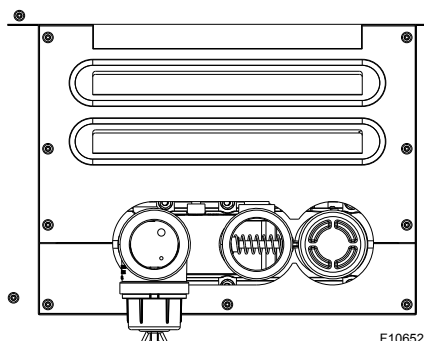

Figure 26. Access Panels
1. Remove right and left side access panels. See **Figure 26**.